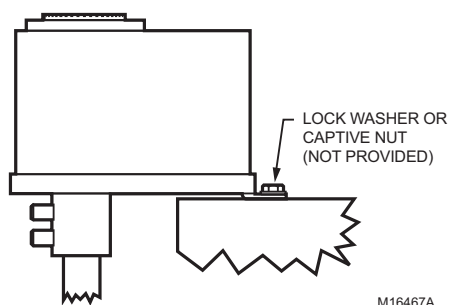

Fig. 3. Mounting ML7999C.
1. Place the actuator over the shaft, see Fig. 3.